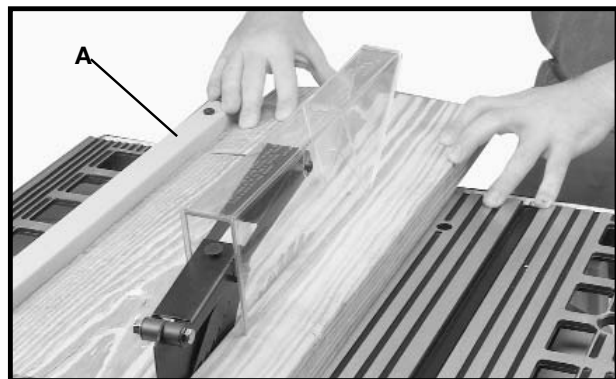

Fig. 43
Ripping is cutting lengthwise through a board. The rip fence (A) Fig. 43 is used to position and guide the work. One edge of the work rides against the rip fence while the flat side of the board rests on the table. Since the work is pushed along the fence, it must have a straight edge and make solid contact with the table.
1. Start the motor and advance the work holding it down and against the fence. **Never** stand in the line of the saw cut when ripping. When the rip width is 6 inches or wider, hold the work with both hands and push it along the fence and into the saw blade (Fig. 43). The work should then be fed through the saw blade with the right hand. Only use the left hand to guide the workpiece. Do not feed the workpiece with the left hand. After the work is beyond the saw blade and anti-kickback fingers, remove hands from the work.